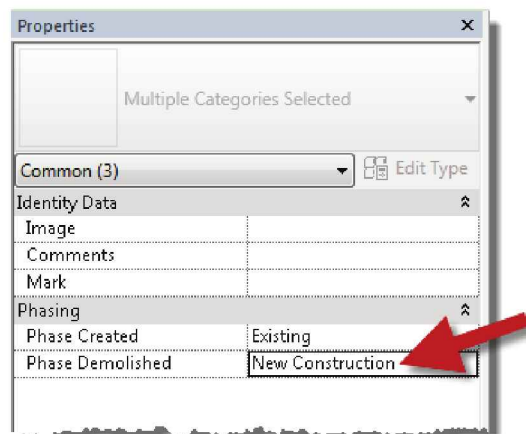

FIGURE 16-3.9 Phased Demolished set to New Construction
18. With the three elements selected, set the Phase Demolished to **New Construction** (Figure 16-3.9).